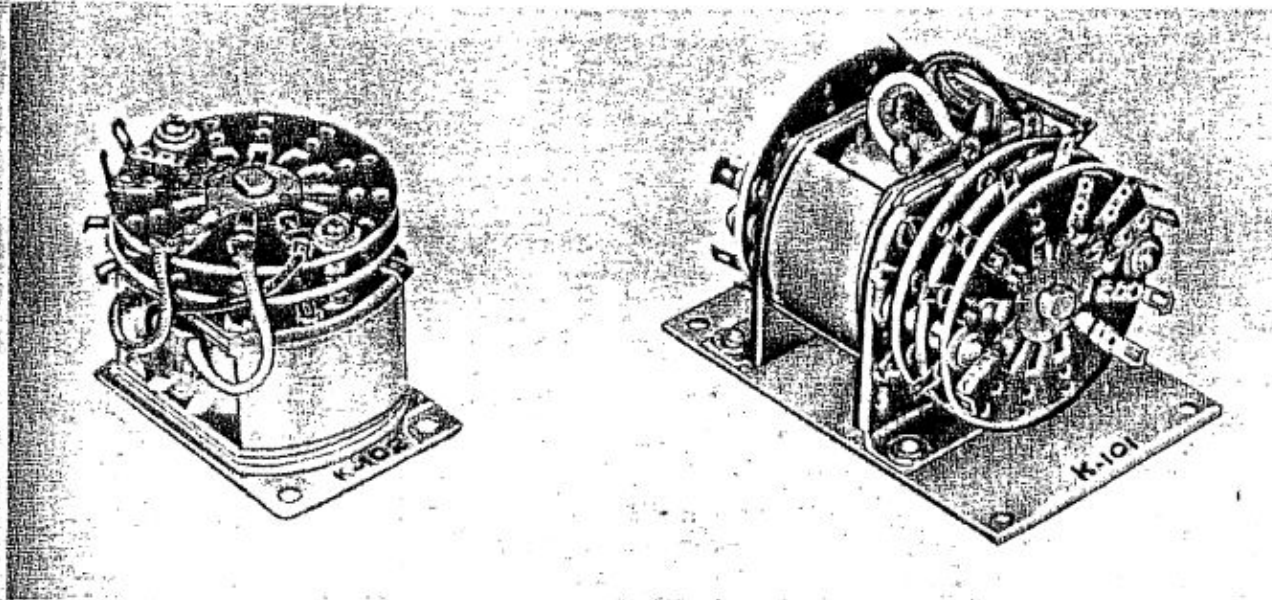

Figure 5-9. Loop and Antenna Relays K-101 and K-102
(1) Operate Radio Compass AN/ARN-6 with function switch in "ANT." position. Tune in stations of known power on each band and note whether reception is normal. If trouble is experienced on only one or two bands, proceed as outlined in paragraph 3.f., this section. If unsatisfactory operation is obtained on all bands, proceed as outlined in paragraph 3.g., this section. If "ANT." operation is satisfactory, proceed as follows.
(2) Operate Radio Compass AN/ARN-6 with the function switch in "LOOP" position. Check loop rotation with the "LOOP L-R" switch. If loop rotation is unsatisfactory, proceed as outlined in paragraph 3.b., this section. Should loop rotation be satisfactory in "LOOP," and receiver output normal in both "LOOP" and "ANT.," the difficulty may be in the compass and loop control circuits.
(3) Check for correct operation of antenna relay K-102 and loop relay K-101. (See figure 5-9.) With the function switch in "ANT." position, antenna relay K-102 should be energized and loop relay K-101 should remain in its unenergized position. Switch to "LOOP" and note the loop relay K-102, which is now energized, and antenna relay K-102, which becomes de-energized. In "COMP-ADF." operation both relays should remain unenergized. If either relay does not operate normally,